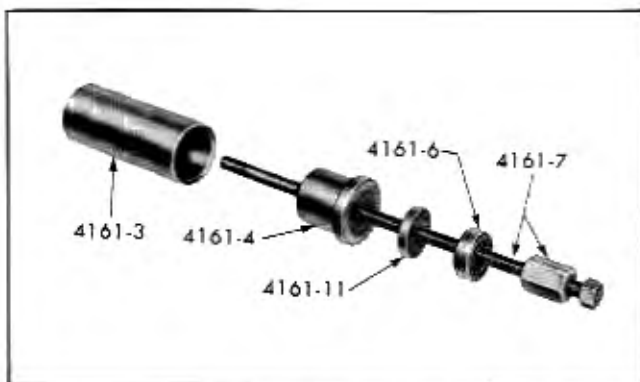

Fig. 4-51 Component Parts of Bushing Replacer Tool J-4161-A
a. Oil threads and insert screw and nut assembly 4161-7 through thrust bearing 4161-6, washer 4161-11, flanged adapter 4161-4, and large sleeve 4161-3 (Fig. 4-51).
a. Oil threads and insert screw and nut assembly 4161-7 through thrust bearing 4161-6, washer 4161-11, flanged adapter 4161-4, and large sleeve 4161-3 (Fig. 4-51); then slip small sleeve 4161-10 into large sleeve.